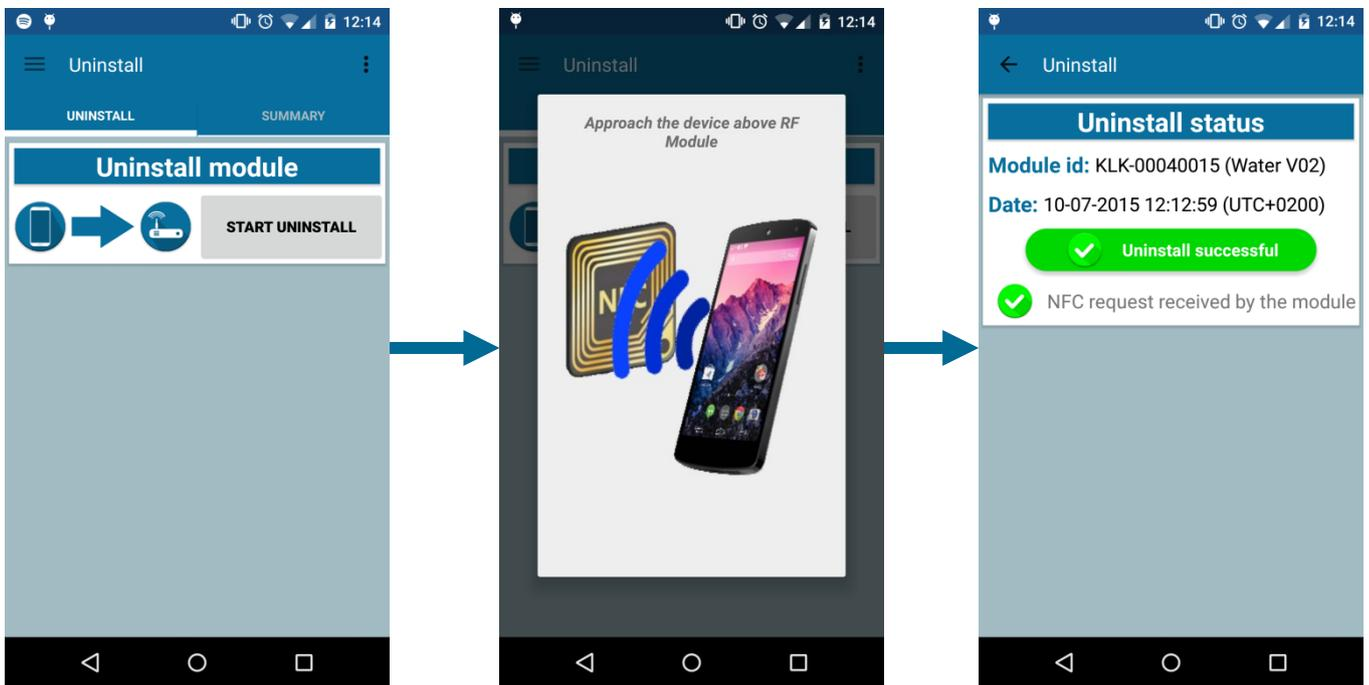

Figure 40: Uninstall operation with no headend communication
- Once completed, the status of the removal is displayed on the screen (see Figure 40).